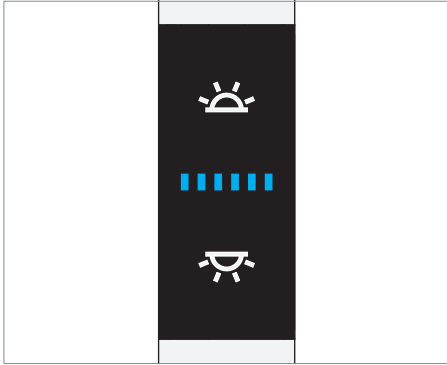

Fig. 12: Operating element.
- ▶ Press the upper switch, see Fig. 12.
- ▶ Press the lower switch, see Fig. 12.
- ▶ Press the upper switch and keep it depressed, see Fig. 12.
- ▶ Press the lower switch and keep it depressed, see Fig. 12.